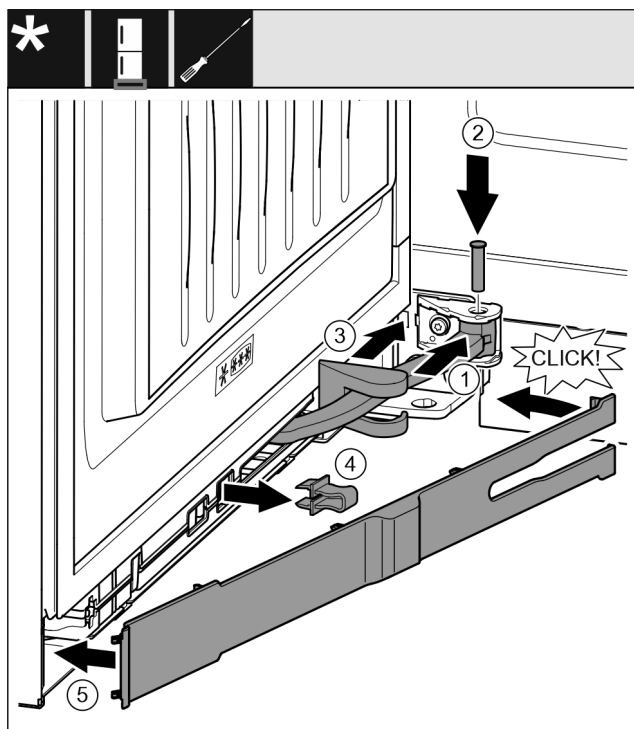

Fig. 35
- ▶ Turn the joint Fig. 35 (1) in the attachment.
- ▶ Use a screwdriver to insert the bolt Fig. 35 (2) into the attachment and the joint. Ensure that the latching cam is in the groove properly.
- ▶ Push the swap bearing block cover Fig. 35 (3) along the joint and use the attachment to fit it.
- ▶ Remove the safeguard Fig. 35 (4).
- ▶ Place the trim Fig. 35 (5) on the handle side and swing in.